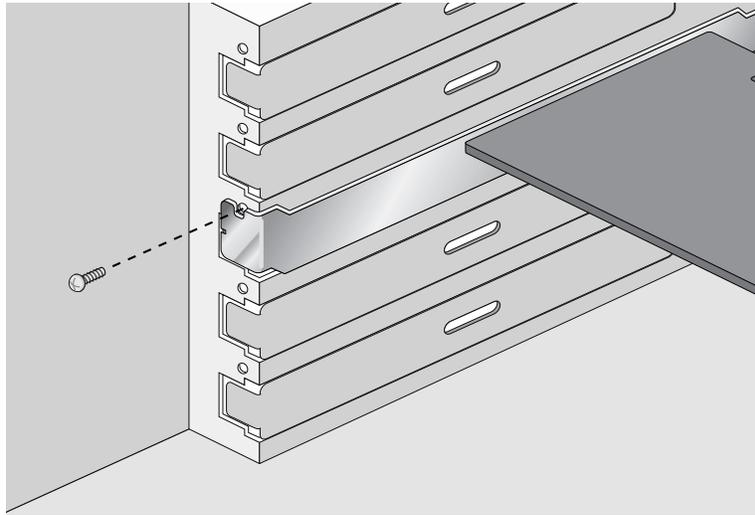

Figure 12. Securing the Adapter with a High-profile Bracket
6. Secure the network adapter card to the chassis with a Phillips-head screw (not provided). See Figure 12 on page 37.